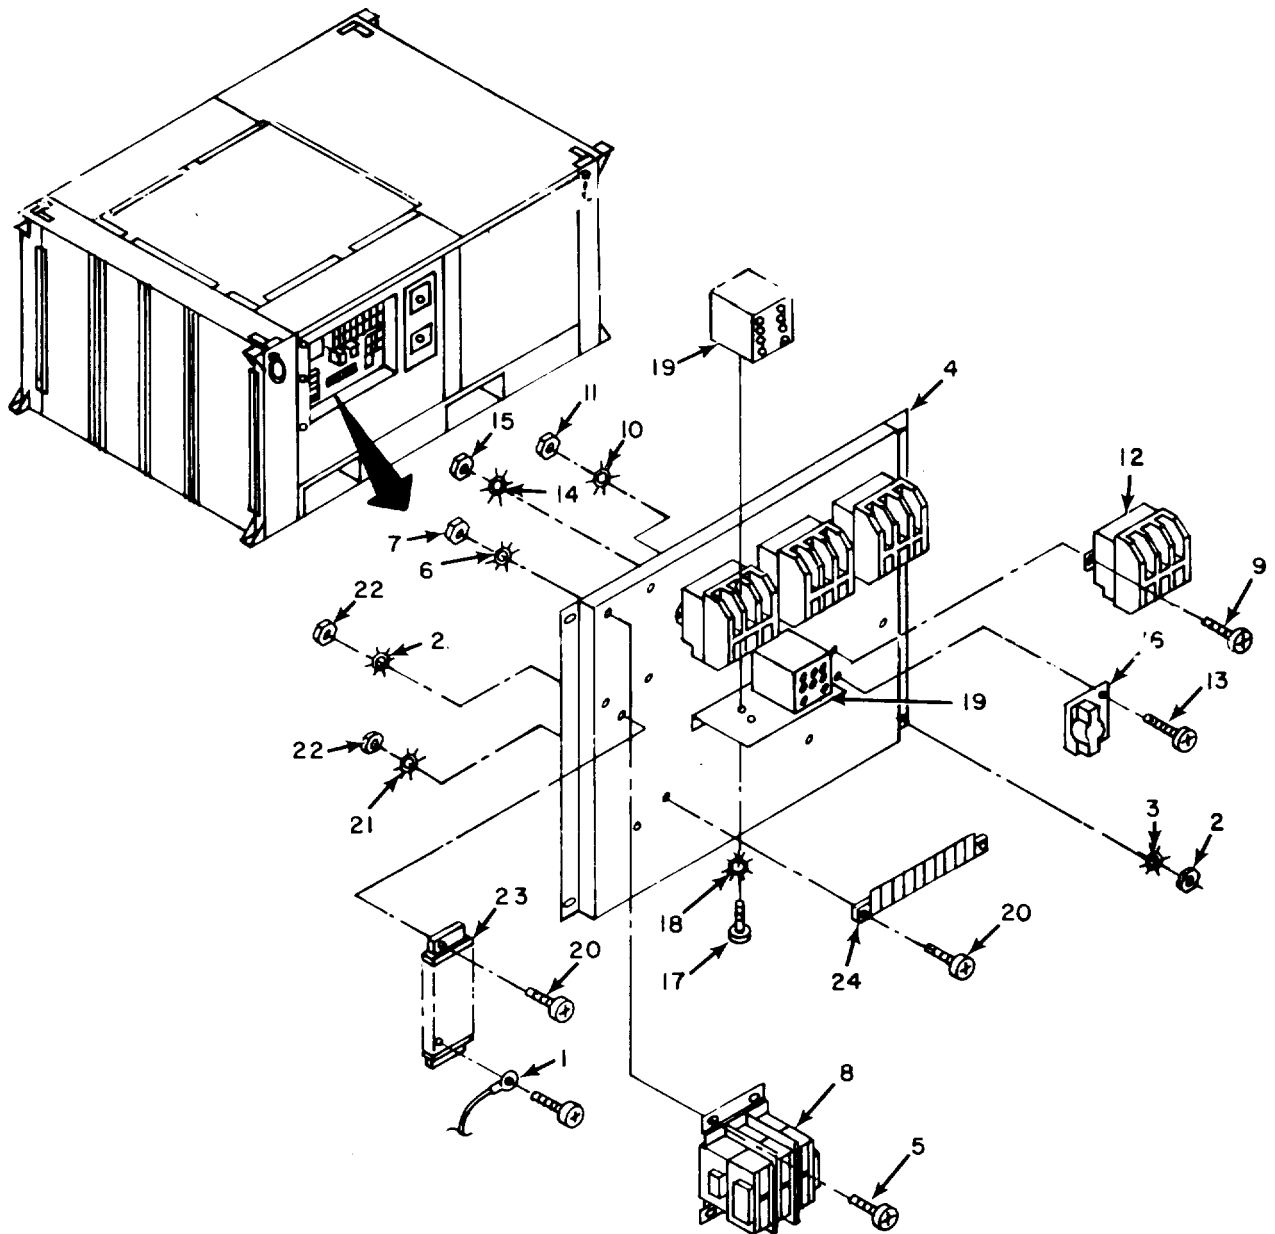

Figure 4-29. Internal Control Board
c. Removal (see figure 4-29).
- (1) Tag and disconnect five power cable leads (1).
- (2) Remove four nuts (2), lockwashers (3) and panel (4).
- (3) Disengage terminal board from unit.
- (4) Remove four screws (5), lockwashers (6), nuts (7), and motor starter (K3) (8).
- (5) Remove two screws (9), lockwashers (10), and nuts(11) for each contactor (K1, K2, K7, and K8) (12).
- (6) Remove screw (13), lockwasher (14), nut (15), and time delay relay (K6) (16).
- (7) Remove two screws (17). and lockwashers (18) for each relay (K5 and K4) (19).
- (8) Remove two screws (20), lockwashers (21), nuts (22), and TB2 (23).